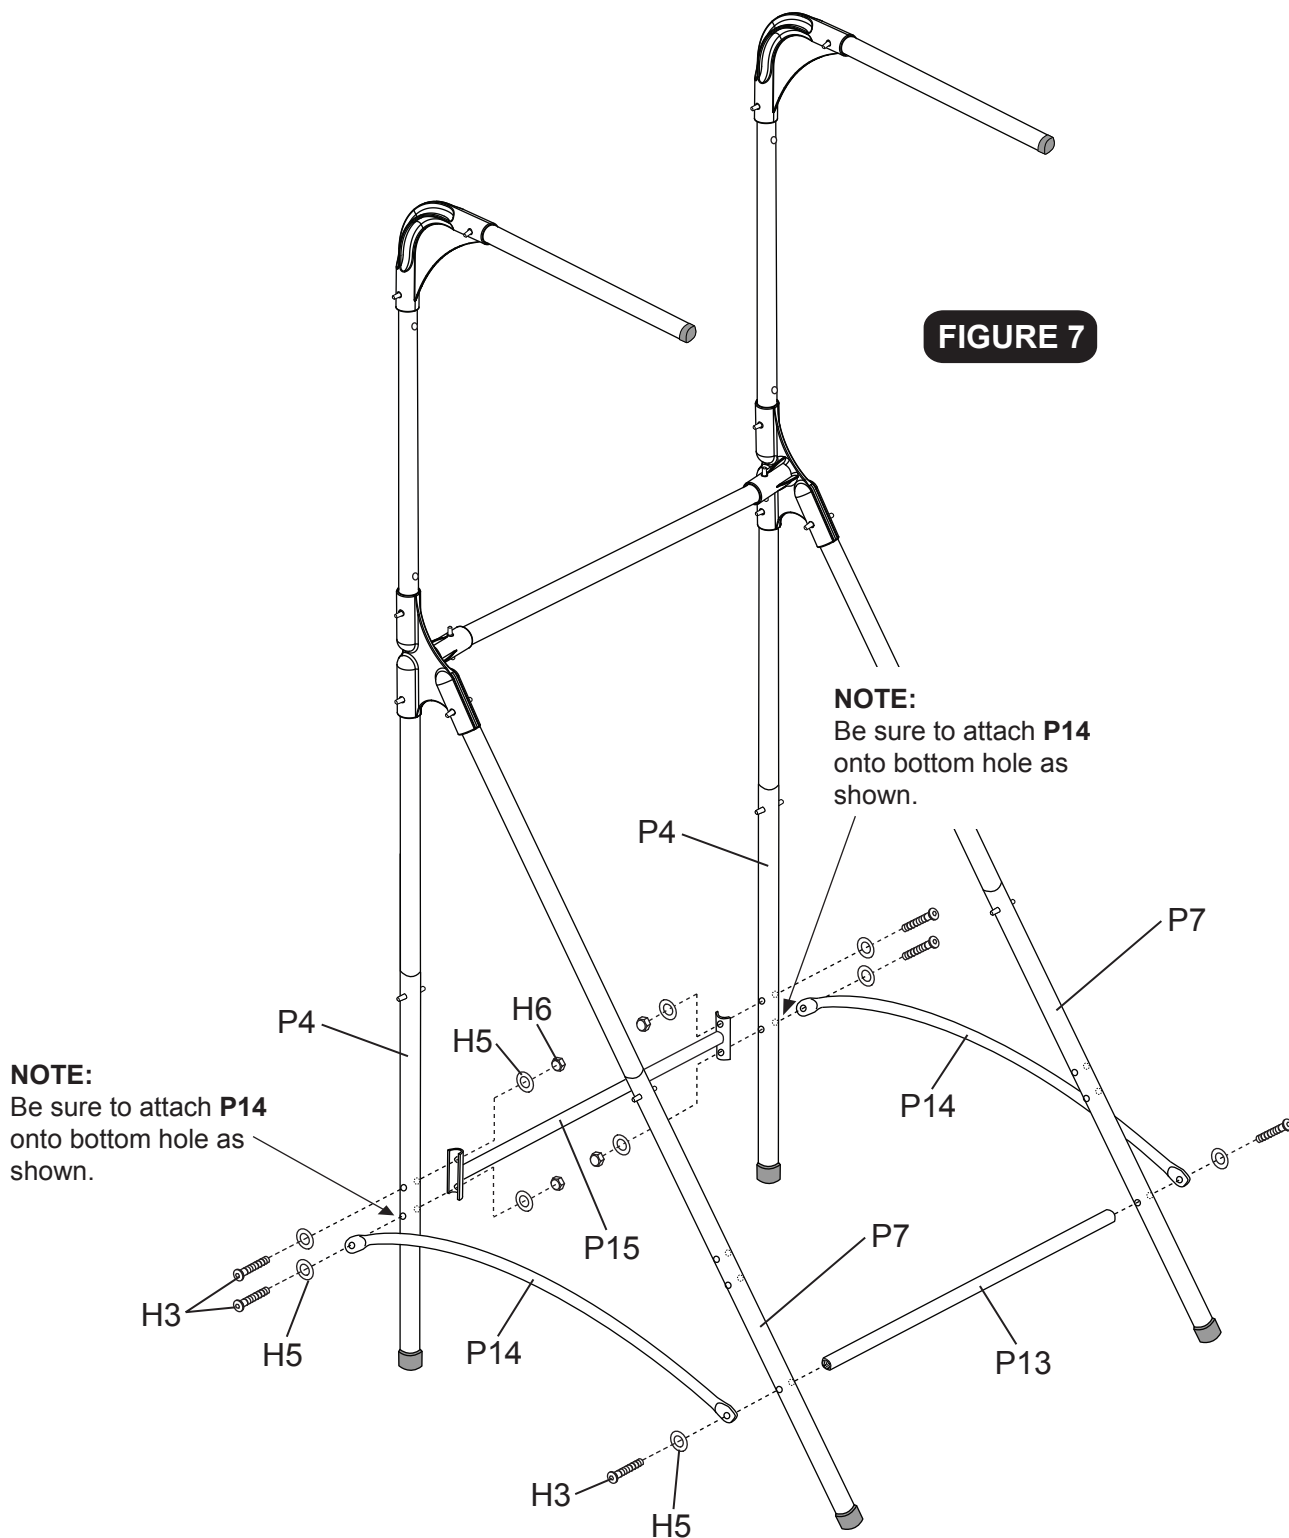

FIGURE 7
14. Install **P13** Front Support Brace and **P14** Curved Side Braces to **P7** Tubes using **H3** Allen Head Bolts with **H5** Flat Washers as shown in **FIGURE 7**. **Do not tighten Bolts.**
15. Install **P15** Back Bottom Support Tube and another end of **P14** Curved Side Braces to **P4** Tubes using **H3** Allen Head Bolts, **H5** Flat Washers and **H6** Lock Nuts as shown in **FIGURE 7**. **Tighten all Bolts and Nuts.**